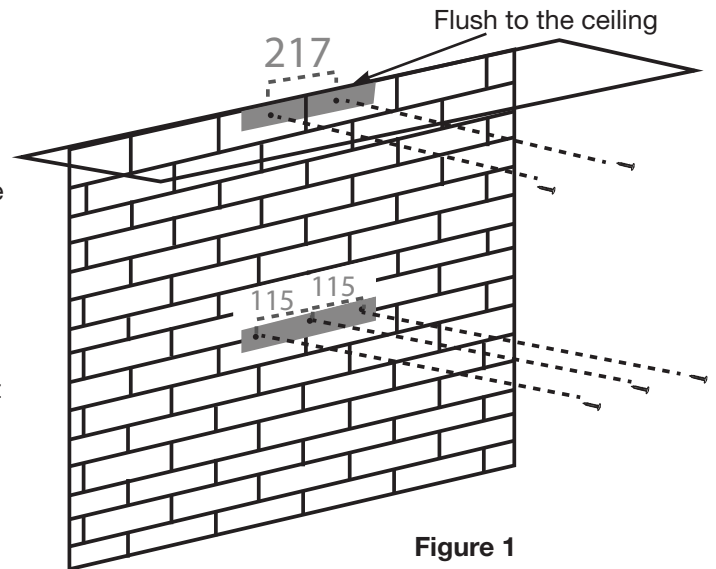

Figure 1
- The range hood will be installed on top of this bracket (see Figure 1).
- Drill two holes according to the size of the upper mounting bracket. The upper mounting bracket should be positioned flush with the top of the outside chimney (see Figure 1).